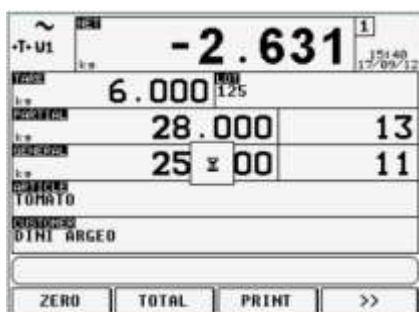

Figure 8. Totalisation underway (unloading mode)
4. If the weight is not stable the screen of Figure 8 is displayed